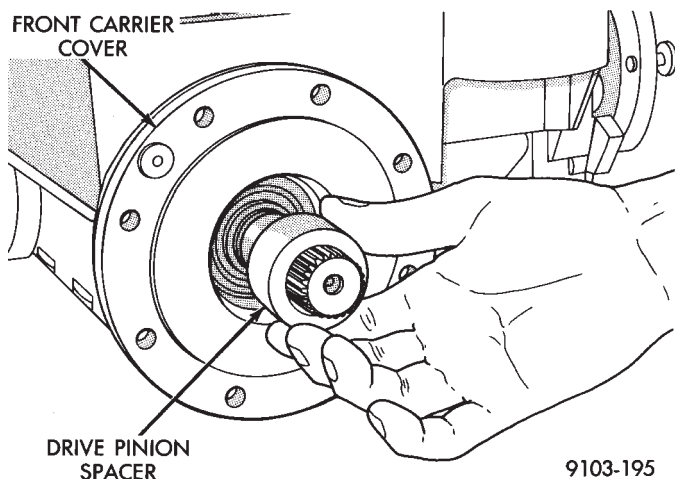

Fig. 12 Installing Drive Pinion Spacer onto Pinion
(3) Apply a light coat of oil onto the drive pinion spacer. Then slide onto the pinion shaft with the tapered side facing outward (Fig. 12).